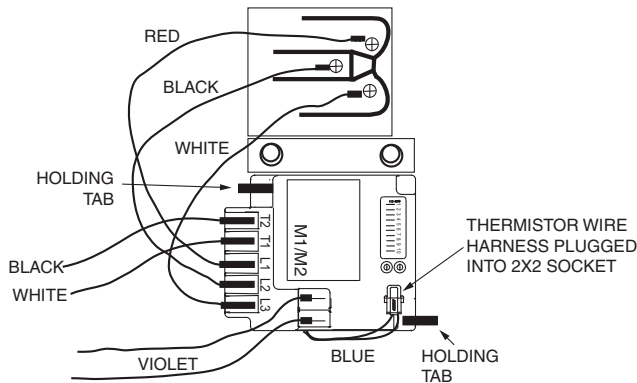

Fig. 73 — CoreSense Communication Module Mounting
3. Install the CoreSense module in the compressor terminal box as shown in Fig. 73, with the tabs holding the module in place. Route the thermistor wire harness as shown and plug the harness into the 2x2 socket on the CoreSense module.